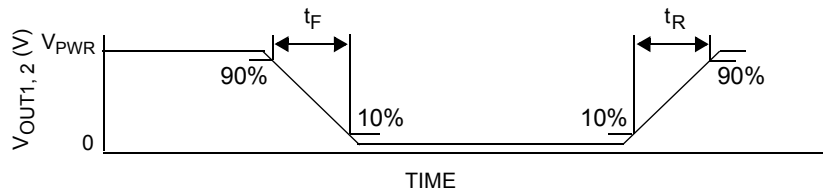

Figure 6. Output Switching Time
27. Rise Time is from the 10% to the 90% level and Fall Time is from the 90% to the 10% level of the output signal with $V_{PWR} = 14\text{ V}$, $R_{LOAD} = 3.0\text{ ohm}$. See Figure 6, page 9.